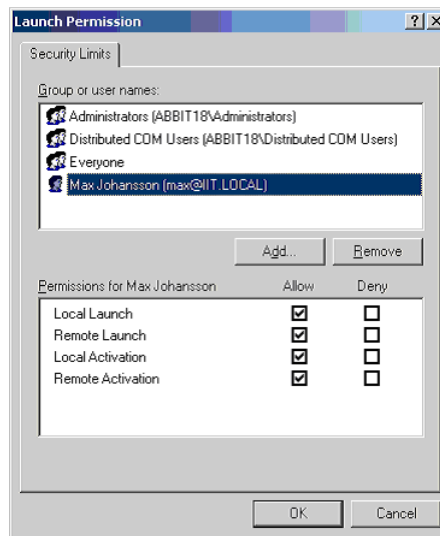

Figure 74. Launch Permissions Dialog Box
4. Add the engineering user, in this case Max Johansson, and give him/her the permissions according to Figure 74.